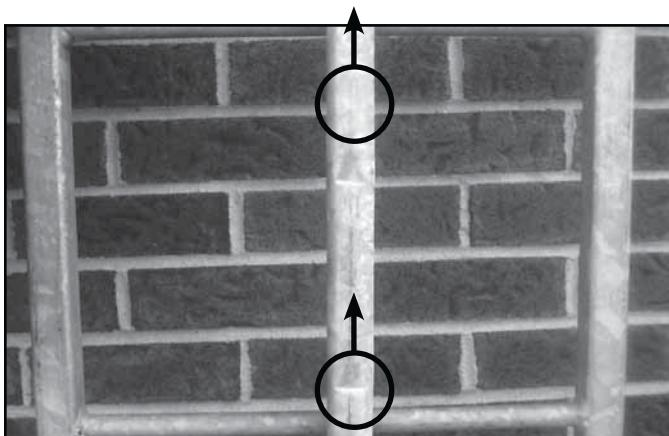

FIGURE 9 NOTCHES INSTALLED CORRECTLY (POINTING UP)
- Notches must be pointed up the ladder. The SAF-T-GRIP™ SLEEVE will not engage during a fall if the notches are pointing in the wrong direction (see figures 9 and 10).
- Make sure that the hardware is installed correctly (Figure 9 shows galvanized rail and Figure 10 shows stainless and aluminum rails).